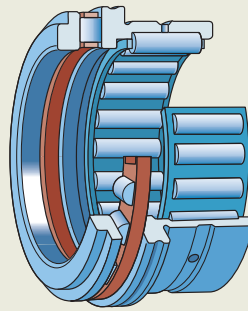

Fig. 32
- can be combined with an inner ring (fig. 32), where the shaft cannot be hardened and ground (product table, page 658, must be ordered separately)